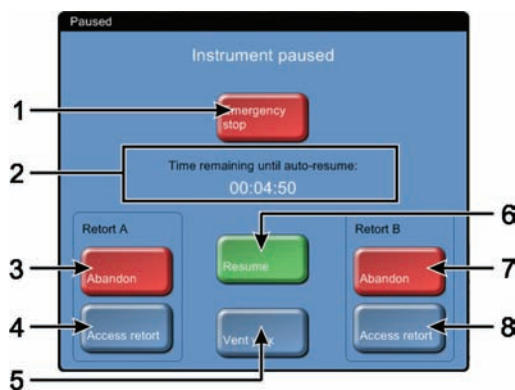

Figure 75: "Paused" dialog box
2. The "Paused" dialog box will now appear (see Figure 75).
1. Select the **Emergency stop** button from the "Paused" dialog box (see Figure 75).
See Figure 75 for "Paused" dialog box details.
See Figure 75 for “Paused” dialog box details.
To access retort B, select the left **Access retort** button (**Unlock retort** for instruments with latch locks) from the “Paused” dialog box. See Figure 75 for “Paused” dialog box details.
You can vent the wax bath from the "Paused" dialog box (see Figure 75). Venting the bath releases any pressure or vacuum in the bath so you can easily and safely open the wax bath lids. To vent the bath, select the **Vent wax** button from the "Paused" dialog box.
To resume paused protocols, select the **Resume** button from the "Paused" dialog box (see Figure 75). All paused protocols will immediately recommence.